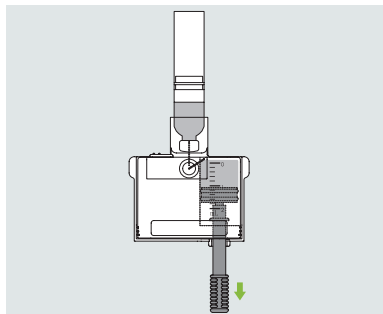

Figure 22
3. With the insulin vial or cartridge on top, slowly pull the pullrod and draw insulin into the reservoir as in Figure 22.